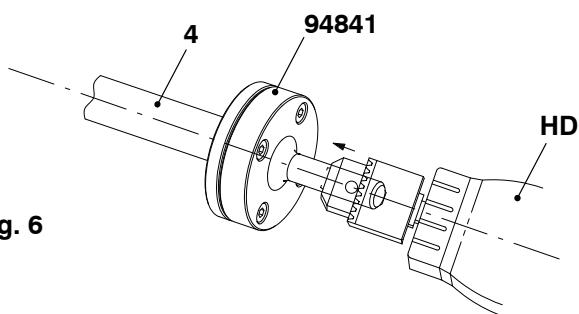

Fig. 6
- 17) Install the HP injection pipe (4) in a vice, as vertically as possible.
- 19) Put the hand drill with the regrinding device 94841 exactly in line on to the HP injection pipe as shown in Fig. 6.